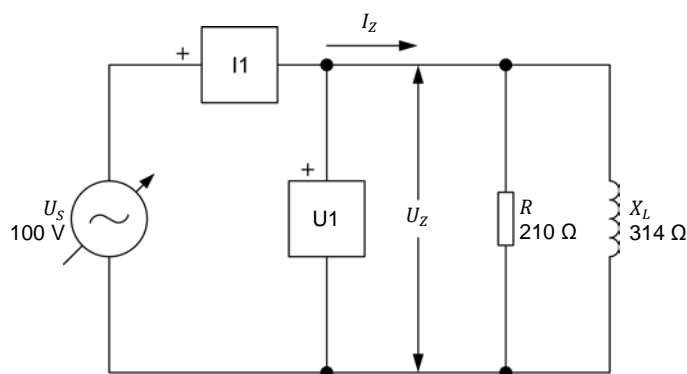

Figure 2-21. Parallel ac circuit containing a resistor and an inductor.
44. Set up the circuit shown in Figure 2-21.